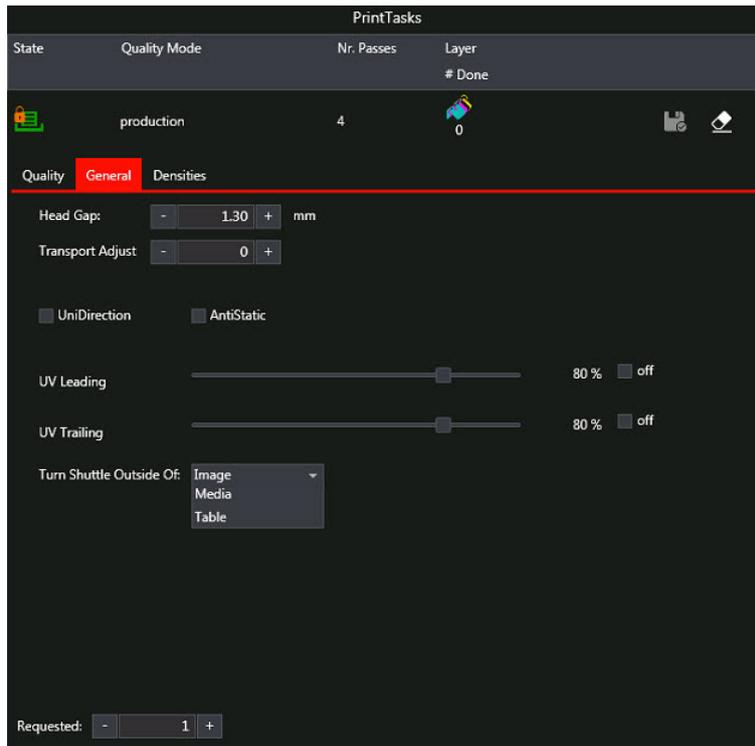

Fig.6-38 PrintTask Pane General Tab
- The UV Leading and the UV Trailing sliders (outlined in magenta in Fig.6-38) provide control over the UV curing light intensity in a range from minimum value 10% to 100%. Checking, the off box turns the UV curing power OFF.